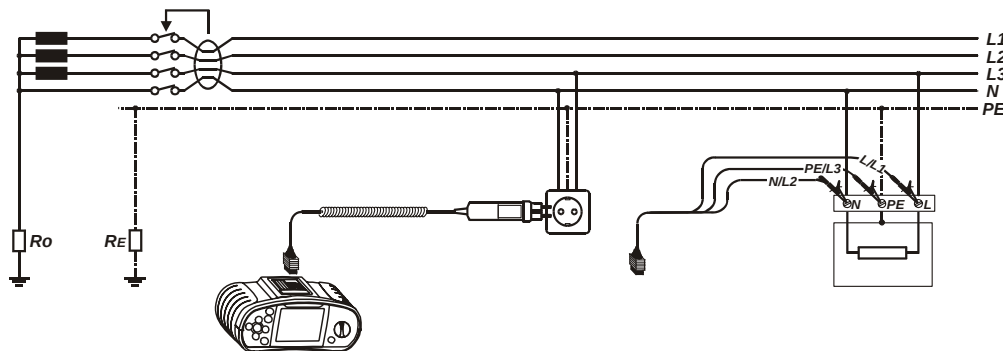

Figure 5.15: Connection of plug test cable or universal test cable
Step 3 Connect the test leads to the instrument and follow the connection diagram shown in figure 5.15 to perform contact voltage measurement.
Step 3 Connect the leads to the instrument and follow the connection diagram shown in figure 5.15 (see the chapter 5.3.6 *Contact voltage*) to perform trip-out time measurement.
Step 3 Connect the test leads to the instrument and follow the connection diagram shown in figure 5.15 (see the chapter 5.3.6 *Contact voltage*) to perform trip-out current measurements.
Step 3 Connect the test leads to the instrument and follow the connection diagram shown in figure 5.15 (also see the chapter 5.3.6 *Contact voltage*) to perform the RCD autotest.